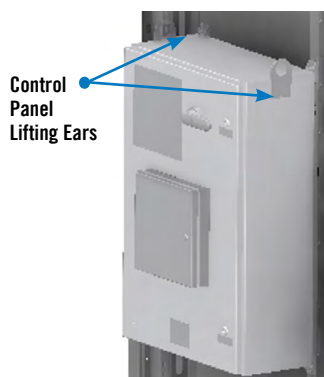

Figure 8. iPilot® Control System Panel
1. After the module is fully assembled, attach the bracket and mounting channel for the control panel. Measure the control panel width before installing the mount channel to match the mounting location. Also check the control panel location on Face A or B. Refer to your submittal drawing (see **Figures 8, 9a, and 9b**).